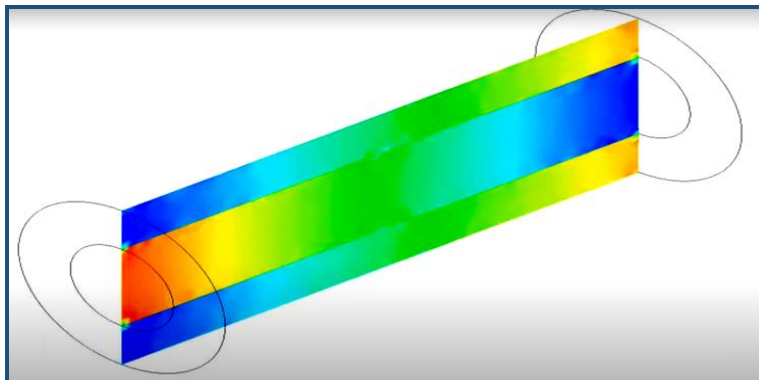

Figure 11.2: Temperature contour of counter flow heat exchanger
5. Analyze the results using the Ansys CFD post to get the contour as shown in Figure 11.2.